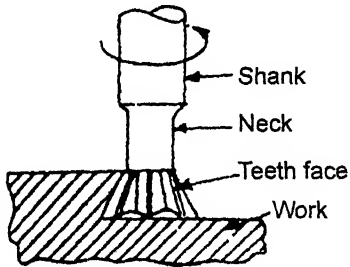

Fig. 10.56. Dove-tail milling.
**9. Dove-tail milling.** Refer to Fig. 10.56. In this milling operation, the end of the cutter is shaped to the required dove-tail angle. The cutter is passed from one end of the workpiece to the other end.